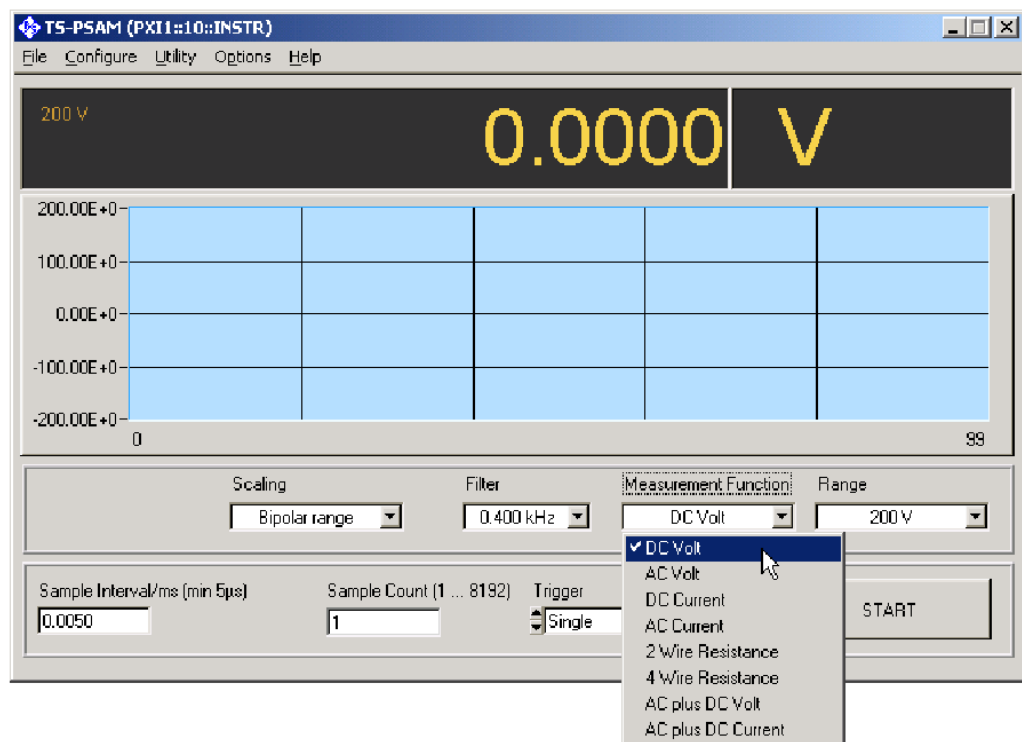
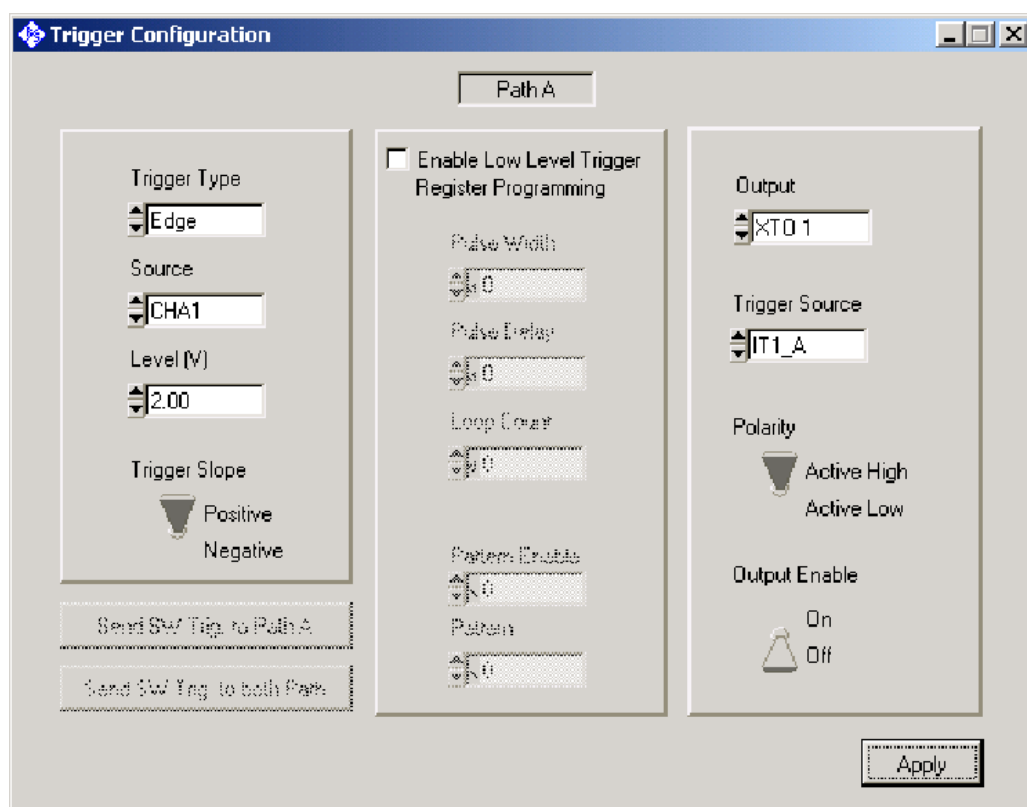

Figure 11-4: Settings, R&S TS-PSAM
Figure 11-5: Subdialog window, R&S TS-PAM trigger setting
- Drop-down list boxes for selecting individual options, e.g. the Measurement Function as shown in Figure 11-4.
A subdialog window offers extended settings such as Triggering that can be called via the main window menu (Figure 11-4). Figure 11-5 shows a submenu window for setting the triggering.